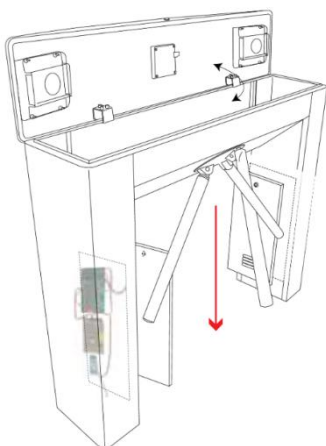
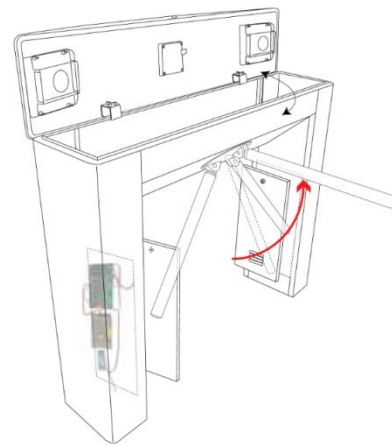

Figure 2.2
Figure 2.3
3. Lift the arm manually, as shown in figure 2.2 and figure 2.3.